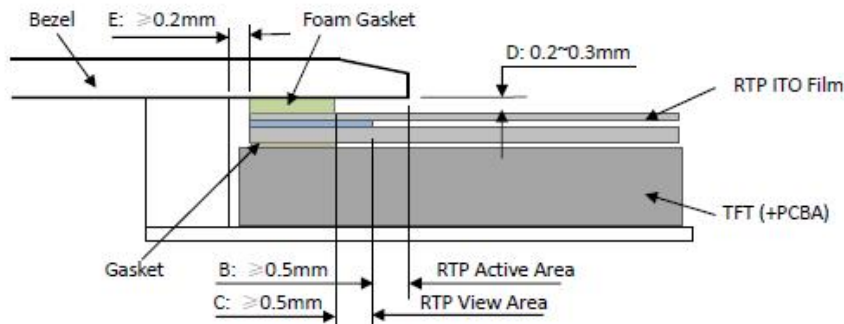

Figure 4
- It should bezel touching the RTP Active Area (A.A.) to prevent abnormal touch. It should left gap  $D=0.2\sim 0.3\text{mm}$  in between. (Figure 4)
- Outer bezel design should take care about the area outside the A.A. Those areas contain circuit wires which is having different thickness. Touching those areas could de-form the ITO film. As a result bezel the ITO film be damaged and shorten its lifetime. It is suggested to protect those areas with gasket (between the bezel and RTP). The suggested figures are  $B\geq 0.50\text{mm}$ ;  $C\geq 0.50\text{mm}$ . (Figure 4)
- The bezel side wall should keep space  $E=0.2\sim 0.3\text{mm}$  from the RTP. (Figure 4)
- 为避免面框直接压在动作区(A.A.)上造成误动作，面框与电阻触摸屏(RTP)之间应留有一定的空隙  $D=0.2\sim 0.3\text{mm}$  之间。(附图 4)
- 设计面框时，要注意用面框保护触摸屏四周的非保证操作区域，因为布线区域在此处形成一台阶，在此区域附近操作时 ITO Film 变形较大，容易导致 ITO 损坏而降低寿命。为保护 RTP 和避免误操作，在 RTP 与面框之间垫缓冲物(Gasket)，我们建议设计面框应覆盖动作区的边缘，面框边缘到 V.A. 区的距离  $B\geq 0.50\text{mm}$ ；垫圈内边缘到 V.A. 区的距离  $C\geq 0.50\text{mm}$ 。(附图 4)
- 在设计面框与 RTP 组装时，应考虑到面框内侧与 RTP 外侧的间距  $E\geq 0.2\text{mm}$ 。(附图 4)